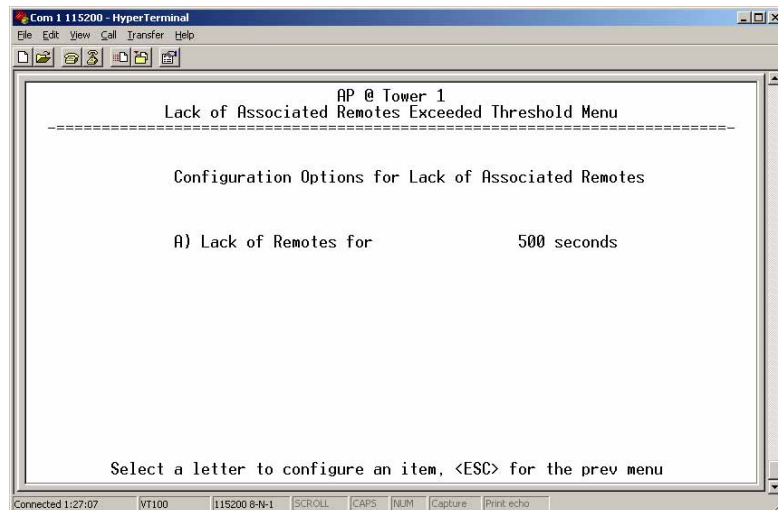

Figure 3-65. Lack of Associated Remotes Exceeded Threshold Menu
- ⌘ **Lack of associated remotes exceeded threshold** This setting determines whether or not a switchover occurs when a lack of associated Remote units exceeds the time period set in Figure 3-65 on Page 97. [enabled, disabled; disabled]
☒ **Lack of Associated Remotes Exceeded Threshold** ☐ This selection opens a submenu (Figure 3-65) where you can view or change the time period allowed for a lack of associated Remotes.